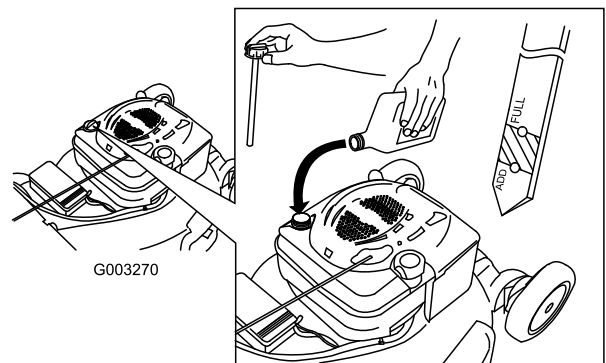

Figure 39
4. **Slowly** pour oil into the oil fill tube until the oil level reaches the Full line on the dipstick (Figure 39). **Do not overfill.** (Max. fill: 20 oz. (0.59 l), type: SAE 30 detergent oil with an API service classification of SF, SG, SH, SJ, SL, or higher.)